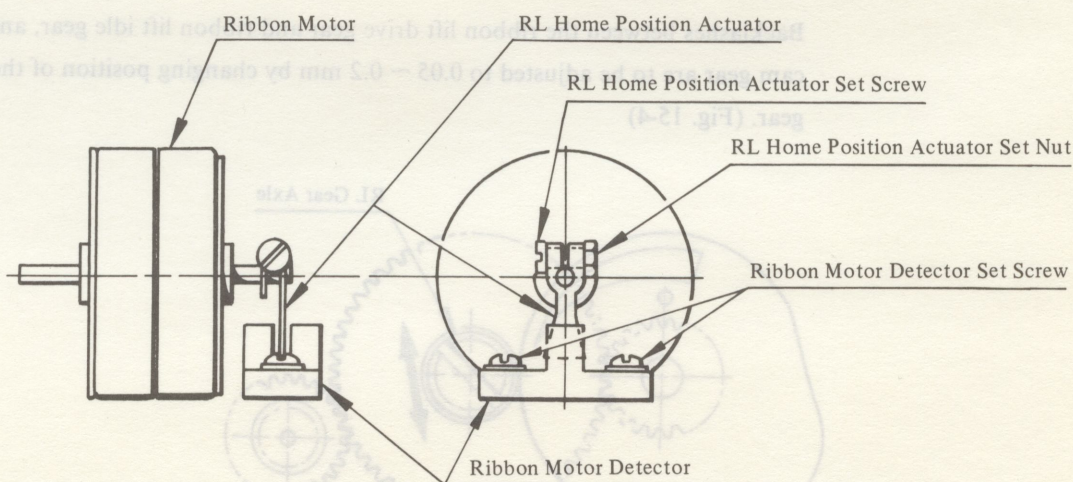

Fig. 15-2
2. Set the MOTOR SELECT switch of checker to "RB" position and turn on the typewriter. The ribbon motor will start running and stop with its shaft indexed at the home position. Loosen the ribbon lift home position actuator set screw and nut and move the ribbon lift home position actuator to adjust so that the ribbon lift home position actuator is found at the center of the slit of ribbon motor detector when the motor shaft is indexed as described above. (Fig. 15-2)